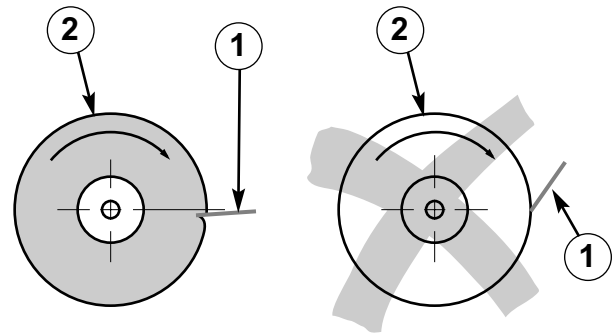

Figure 59 — Correct position for knife during buffing. (1) Knife, (2) Buffing Wheel.
For safety reasons, use a knife holding clamp for crosscut knives (see "Tools", page 69). Slicing knives can be hand held; be cautious and use a firm grip. Hold the knife or knife clamp firmly with the bevel side up, parallel with and just below the center line of the shaft of the buffer (Figure 59). Push the knife edge into the buffing wheel, penetrating the wheel 1/16"-1/8" (1.5-3 mm). Move the knife endwise and buff the entire edge. Do not hold the knife in one area of the buffing wheel too long as the edge may heat and burn.
2. Knives must be correctly held against the buffing wheel (Figure 59).